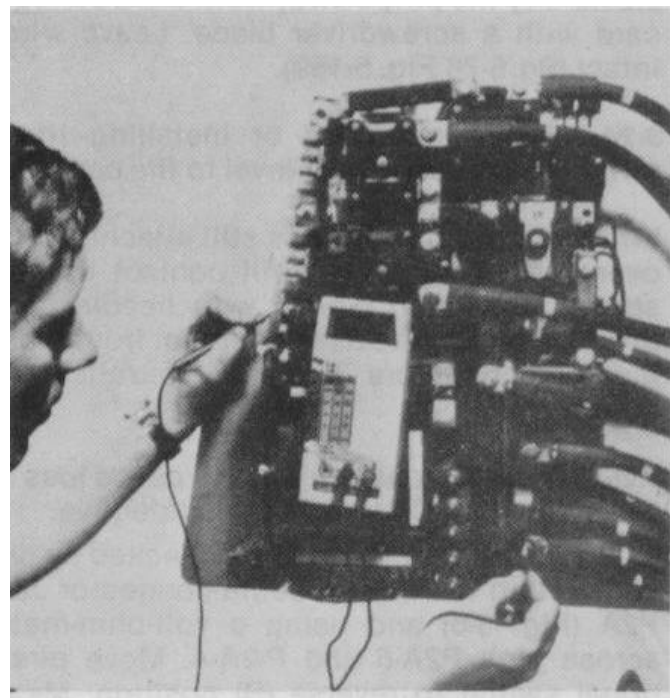

Figure 3-8
3.21.3 Check for an open coil with a volt-ohm-meter placed across the two coil terminals. Fig. 3-8.